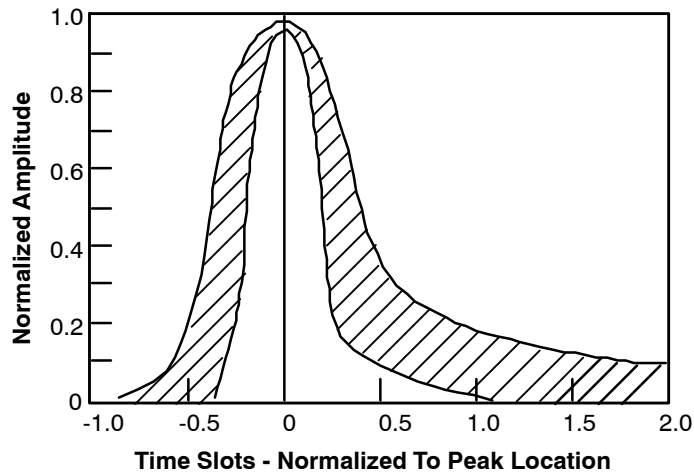
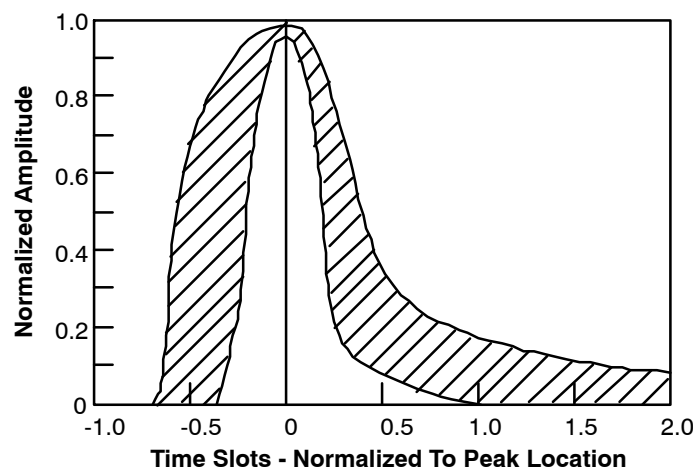

Figure 4. DSX-3 Isolated Pulse Template for ACCUNET T45 Standards
Figure 5. DSX-3 Isolated Pulse Template for G.703 Standards
requirements exist: the ACCUNET T45 pulse template (see *Table 2* and *Figure 4*) and the G.703 pulse template (see *Table 3* and *Figure 5*). *Table 2* and *Table 3* give the associated boundary equations for the templates. The XRT7295AT correctly decodes any transmitted signal that meets one of these templates at the cross-connect.
Pulse Shape	An isolated pulse must fit the template in NO TAG or Figure 5 . ¹ The pulse amplitude may be scaled by a constant factor to fit the template. The pulse amplitude must be between 0.36vpk and 0.85vpk, measured at the center of the pulse.
- ¹ The pulse template proposed by G.703 standards is shown in *Figure 5* and specified in *Table 3*. The proposed G.703 standards further state that the voltage in a time slot containing a 0 must not exceed 5% of the peak pulse amplitude, except for the residue of preceding pulses.
Table 2. DSX-3 Pulse Template Boundaries for ACCUNET T45 Standards (See *Figure 4*.)
Table 3. DSX-3 Pulse Template Boundaries for G.703 Standards (See Figure 5)